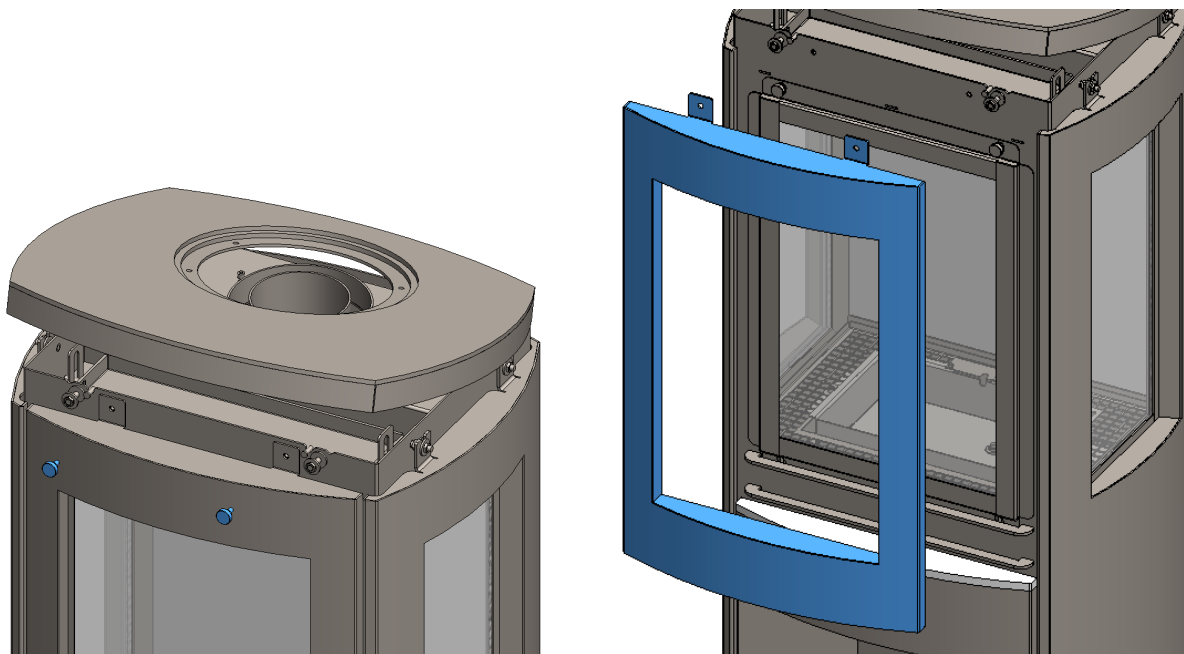

Fig.21 Front fascia panel removal
STEP 2 – Unscrew the thumbscrews by turning anticlockwise. Then lift the front fascia panel away from the appliance, allowing access to the front glass frame. Be carefully when placing the fascia panel aside to avoid scratches or other potential damage (see Fig.21).